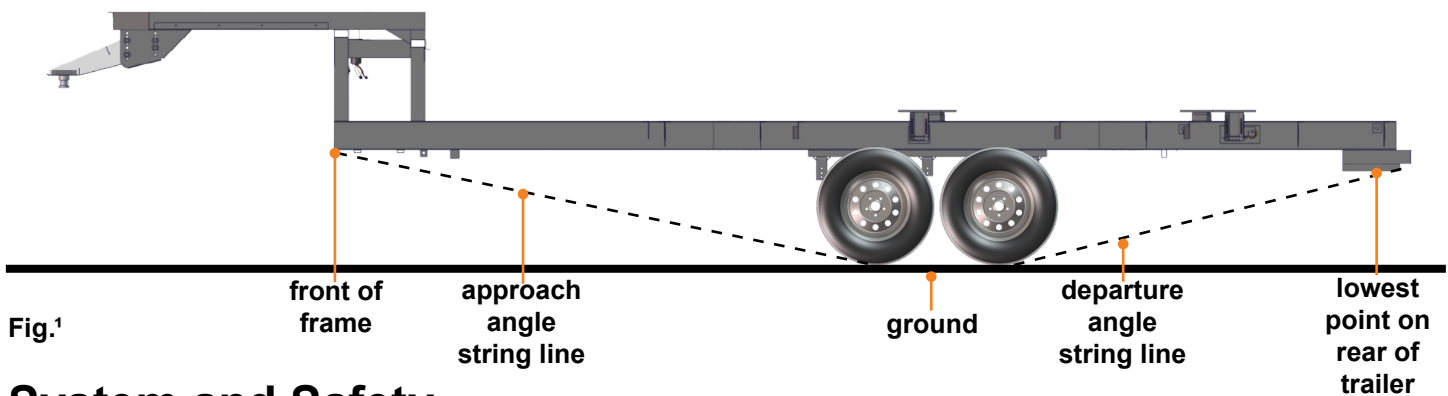

Fig.1
NOTE: The rear Level Up jacks should be mounted approximately 12 - 18" behind the rear tires on a tandem axle trailer or as close to the rear tire as allowed on a tri axle trailer and within the plane of the departure angle (Fig.1), and aligned with each other. The mid Level Up jacks should be mounted approximately 1 foot in front of the front tires. Mid jacks can be offset up to 24 inches to clear obstructions, i.e. entry steps. Determine the location of the current power unit (if one is already on the trailer) or where the new power unit and valve manifolds will be mounted.
1. When fully retracted, the rear jacks **MUST** be mounted to achieve a minimum ground clearance equal to the departure angle (Fig.1) or no less than 8" to the ground to enable maximum level correction. Any additional ground clearance added to the jack location will decrease the amount of level correction available to the system.